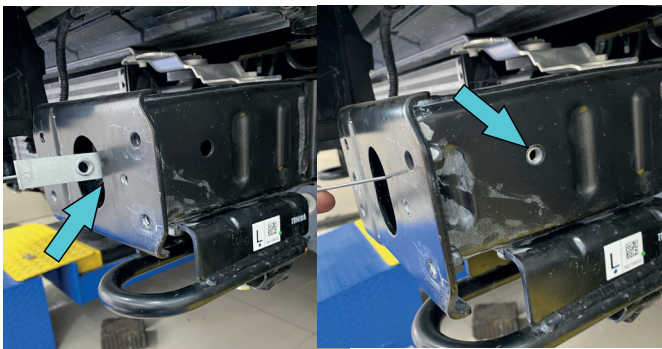

Fig.20
20. Install insert nuts M8 with cable (item T) into hole of OE frame on both sides of the frame as shown in fig.20.